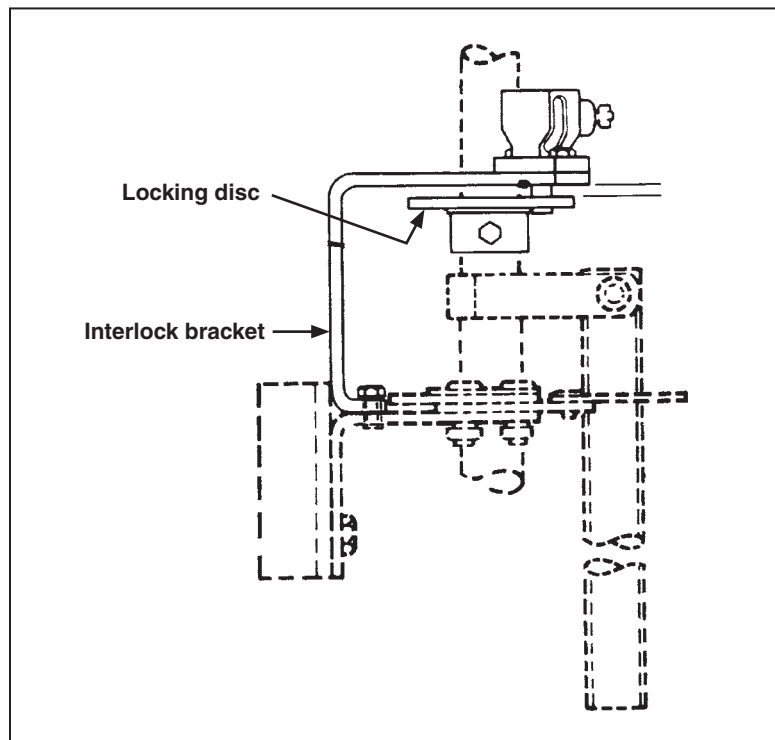

Figure 22. Key-interlock group detail.
- e. With the interrupter switch in the closed position, use the interlock bolt to position the locking disc so that the bolt enters the closed-position slot in the disc (and will enter the open-position slot when the switch is in the open position). Hold the locking disc $\frac{3}{8}$ inch below the interlock bracket (see Figure 22) and drill $\frac{7}{16}$ -inch holes through the vertical-operating-pipe section, using the holes in the locking-disc collar as pilots. Attach the locking disc to the pipe, using the $\frac{3}{8}$ -16 \times 3 bolt, nut, and lockwasher furnished.